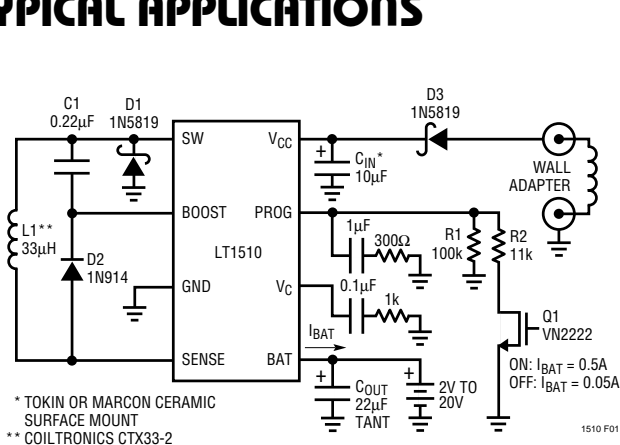

Figure 1. Charging NiMH or NiCd Batteries
* NiCd and NiMH batteries require charge termination circuitry (not shown in Figure 1).